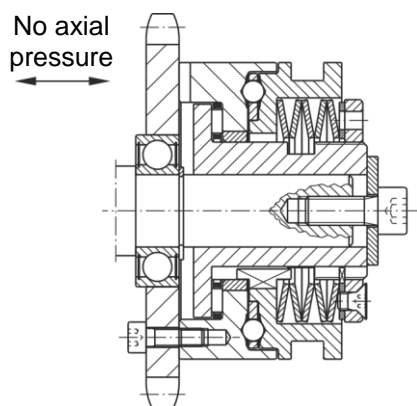

Fig. 4
- ❑ Install the clutch so that it is axially backlash-free, e.g. using a press cover, Fig. 4 (for limit switch accuracy).
- ❑ Do not exert any axial pressure on the clutch, e.g. through offset chain tension or axial distortion during installation of the drive element, Fig. 4.